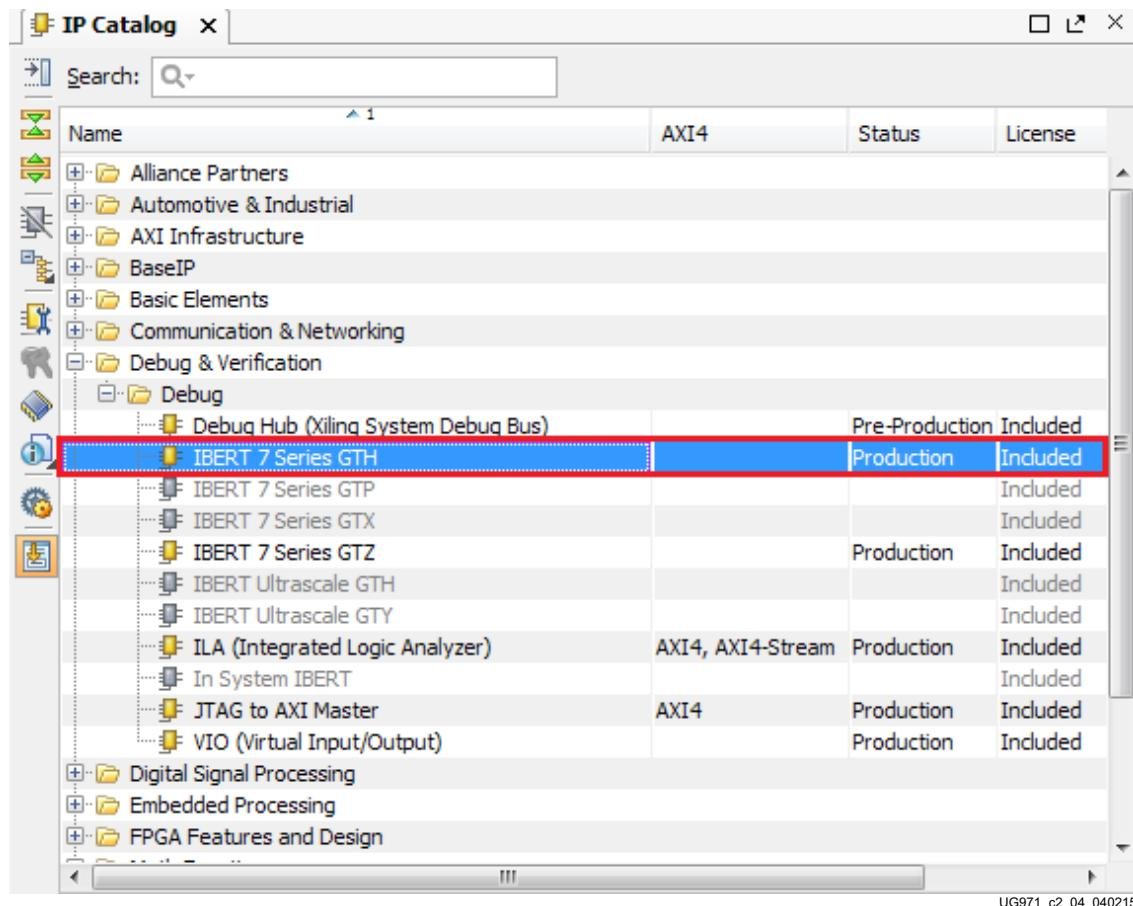

Figure 2-4: IP Catalog
6. In the IP Catalog window, open the **Debug & Verification** folder, then open the **Debug** folder, and double-click **IBERT 7 Series GTH** (Figure 2-4).